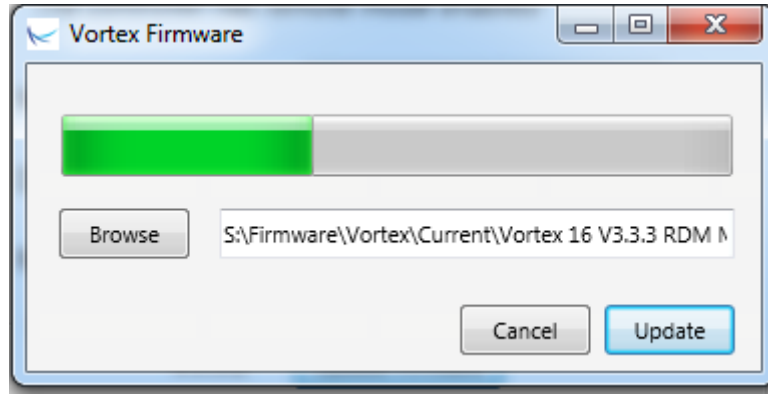

Figure 11
4. Observe the progress bar which indicates the data transfer progress (as shown in figure 11). When finished, a dialog box will appear to confirm the download was completed successfully.